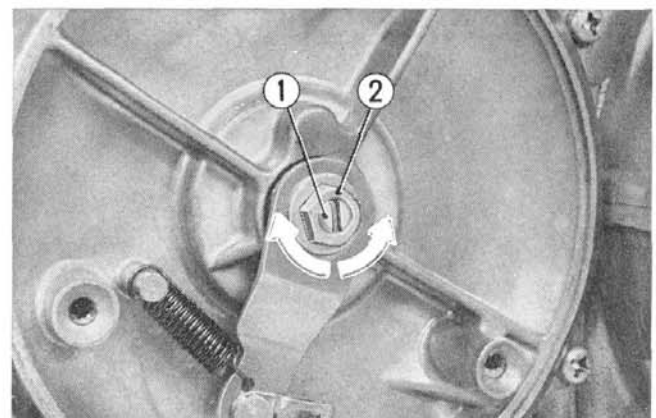

Fig. 19-13 ① Clutch adjusting screw
- c. Remove the clutch cover, loosen the clutch lifter adjusting screw lock nut, turn the clutch adjusting screw in the clockwise direction until a slight resistance is felt. From this position, turn the adjusting screw in the counter clockwise direction  $1/4 \sim 1/2$  turn. Tighten the lock nut. (Fig. 19-13)